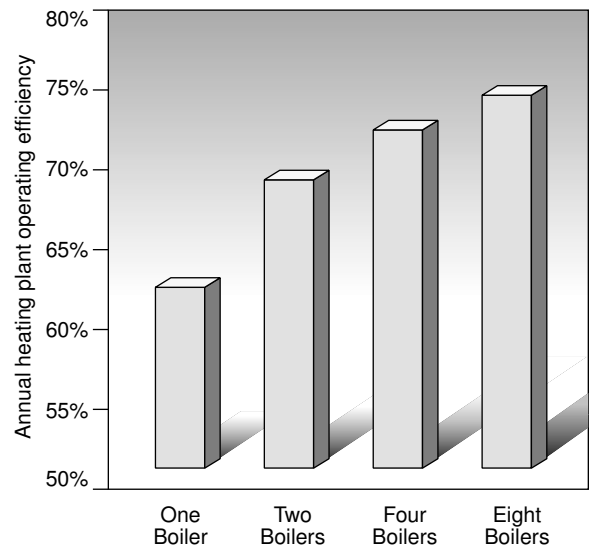

Fig. 19 Energy savings with boiler staging
- Boiler staging saves through reduced energy use. As we can see from figure 19, these savings can be quite significant when dealing with larger commercial applications using many stages.